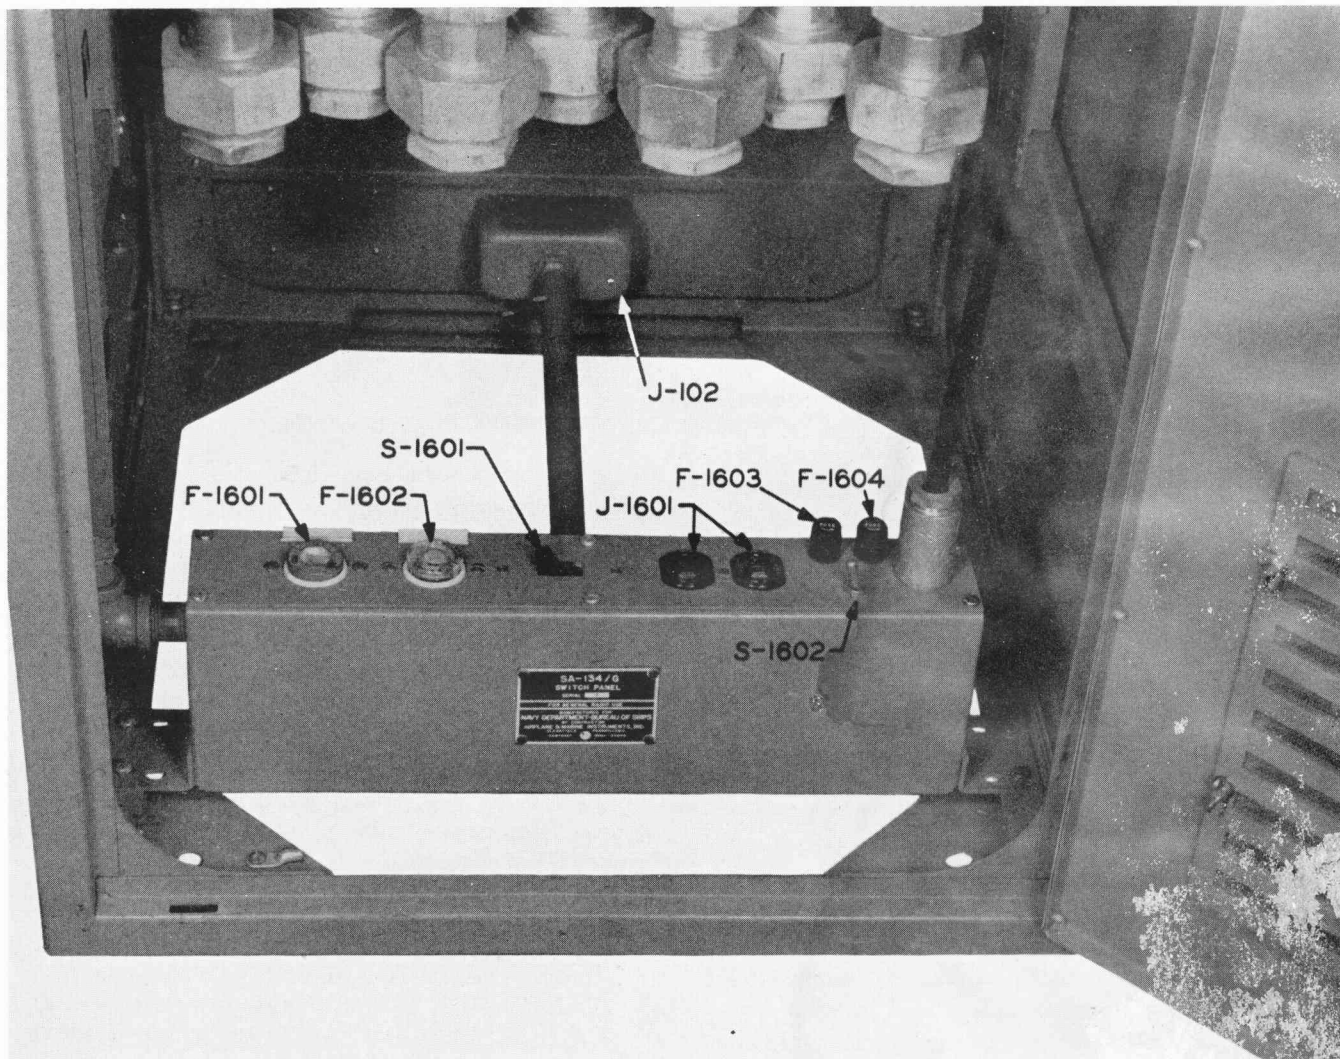

Figure 3-1. Fuse Locations in Primary Power Distribution Panel SA-134/G
b. FUSES.—The operator must replace fuses when the occasion arises. The only fuses in the equipment, except those in the electronic components which are Government furnished, are in the primary power distribution panel SA-134/G (see figure 3-1). If a fuse blows the most probable cause is excessive starting current caused by several electronic components being started at once. Turn off all components connected to the convenience strip and outlets and install a new fuse. Turn on the components one by one. If the fuse blows again, it will be easy to tell which component is causing the overload.
Be sure that the primary power switch (see figure 3-1) is turned off to prevent injury or death before conducting the following maintenance procedures. Since the AF and RF conductors carry only very small currents, it is safe to work inside the cabinets without securing operations completely.